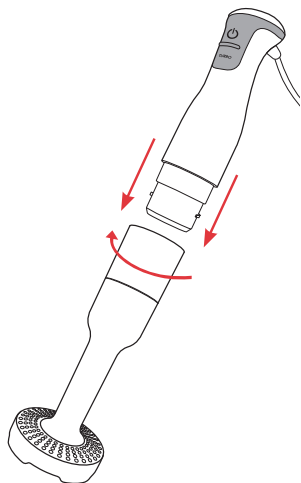

Figure 7
1. Insert the motor housing into the wand and twist the wand in a clockwise position until you hear a click. See Figure 7.